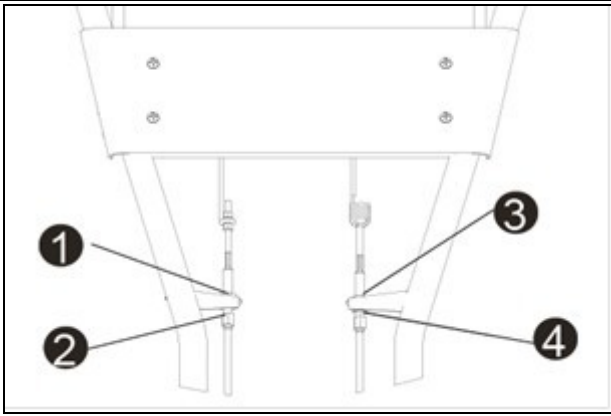

Fig.21
1. Loosen the upper jam nut ① or ③(Fig.21).
2. Turn nut ② or ④ (Fig.21), down the cable in 1/8" increments.
3. Check adjustment. If ok, tighten the up jam nut ① or ③(Fig.21).